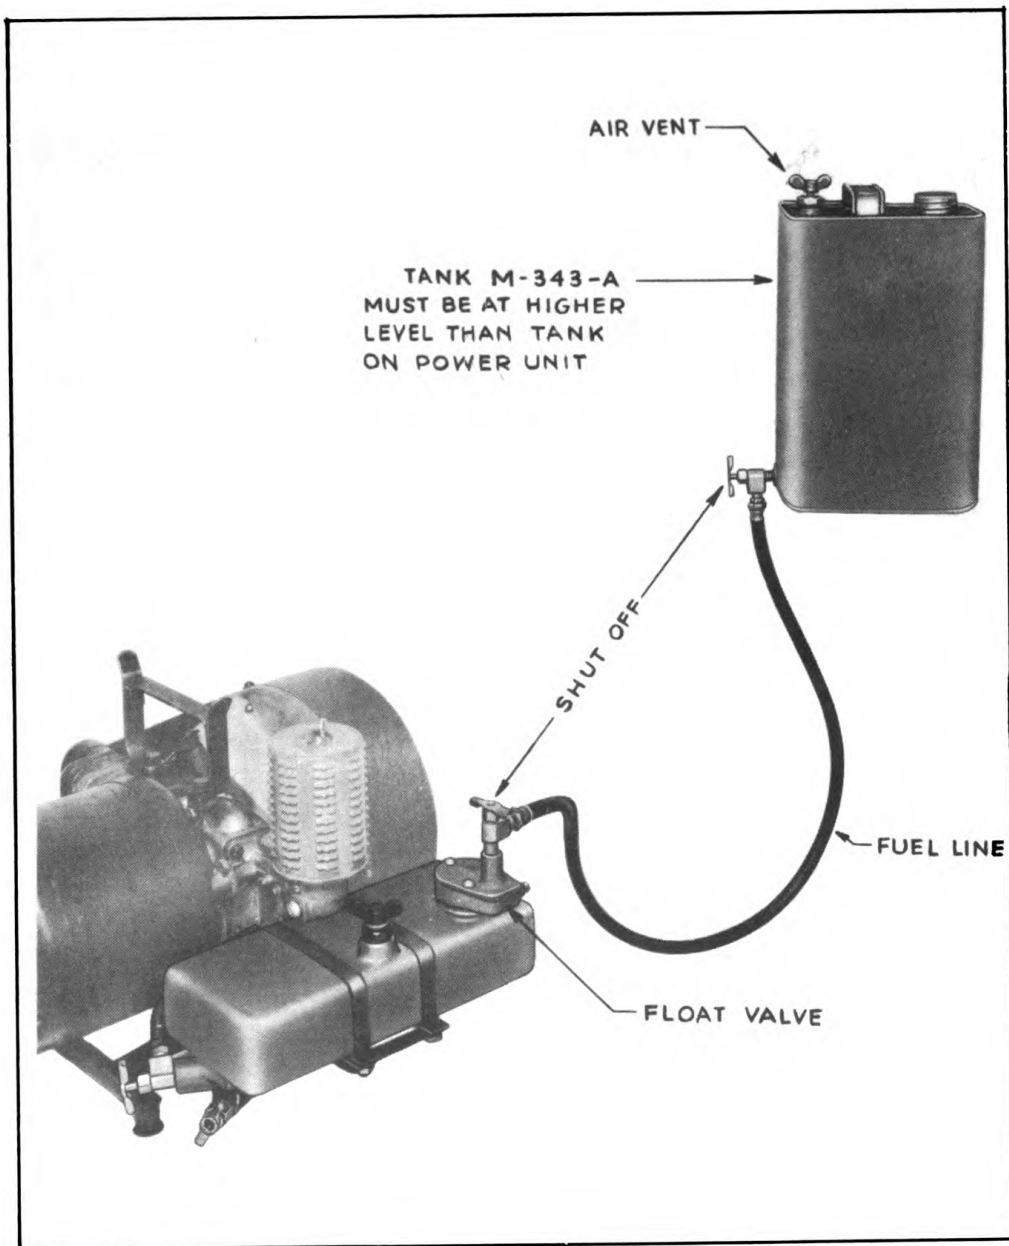

FIG. 4—TANK M-343-A CONNECTED UP
c. Flooded Engine.—Choking the engine too much when starting will flood it. This is particularly true when starting a warm engine. To overcome a flooded condition, first close fuel line shut-off (83). Open drain cock (133) underneath crankcase and crank engine over a few times. When drained, close drain cock (133) and open fuel line shut-off (83) before cranking. Remove and dry spark plug before again attempting to start the unit.
d. Stopping.—To stop engine, close fuel line shut-off (83).
e. Tank M-343-A Installation.—Carried in the top of case (160) when Tank M-343-A is furnished is float valve assembly (170) and fuel line (180). To install these items, remove filler cap assembly (169) from standard fuel tank and screw float valve assembly (170) in its place. Connect one end of fuel line (180) to shut-off cock (178) in float valve assembly, the other end in shut-off at base of Tank M-343-A (181). Be sure to open shut-off valves and air vent on top of Tank M-343-A (181). For illustration of Tank M-343-A (181) installed see Figure 4, Page 12.